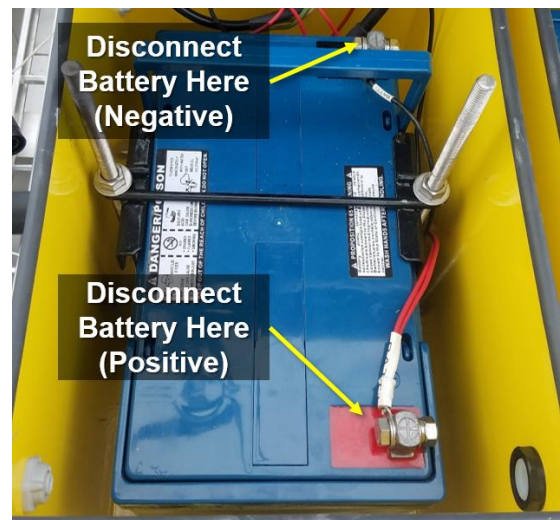

Figure 31. Disconnect the Batteries to Remove from the Battery Enclosure
23. Disconnect the battery directly in the battery enclosure (see Figure 31).